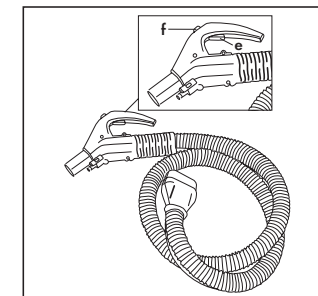

Fig. 14
- Switch on the machine at the main switch (4).
- Press the vacuum function button (f) on the hose handle (d) to activate or deactivate the vacuuming function. Fig. 14.
- Switch on the machine at the main switch (4) and press the boiler heating button (5). As soon as the green control lamp ('ready for operation') (8) illuminates, you can work with steam.
- Adjust the steam volume via the handwheel (6) on the appliance; rotate clockwise for more steam, anticlockwise for reduced steam.
- Push the steam on/off button (e) on the handle of the work hose (d), to activate or deactivate the steam function. Fig 14.